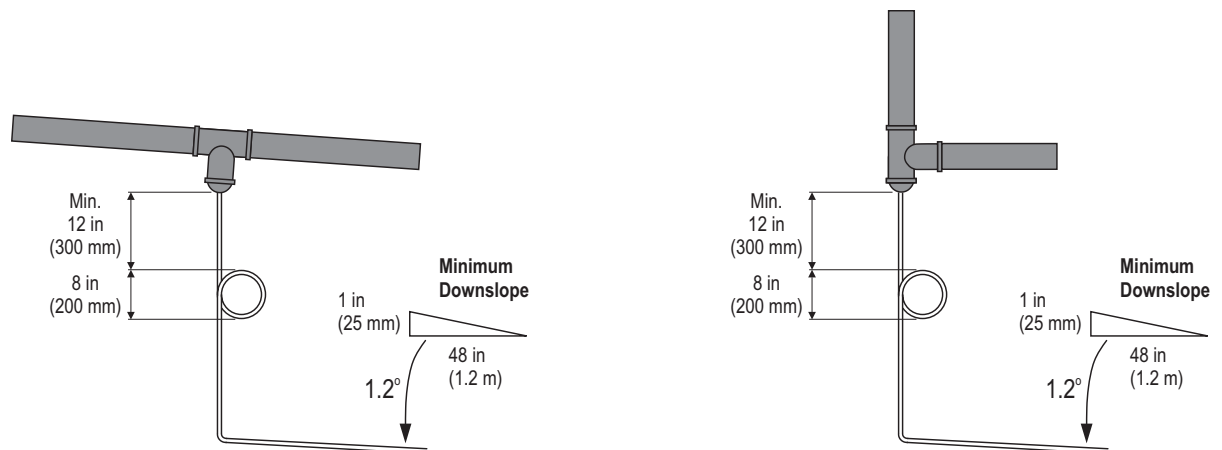

Figure 21: Condensate Drain Lines
- Condensate lines must connect into full size "Tee" fittings in the steam line. Refer to Figure 21.